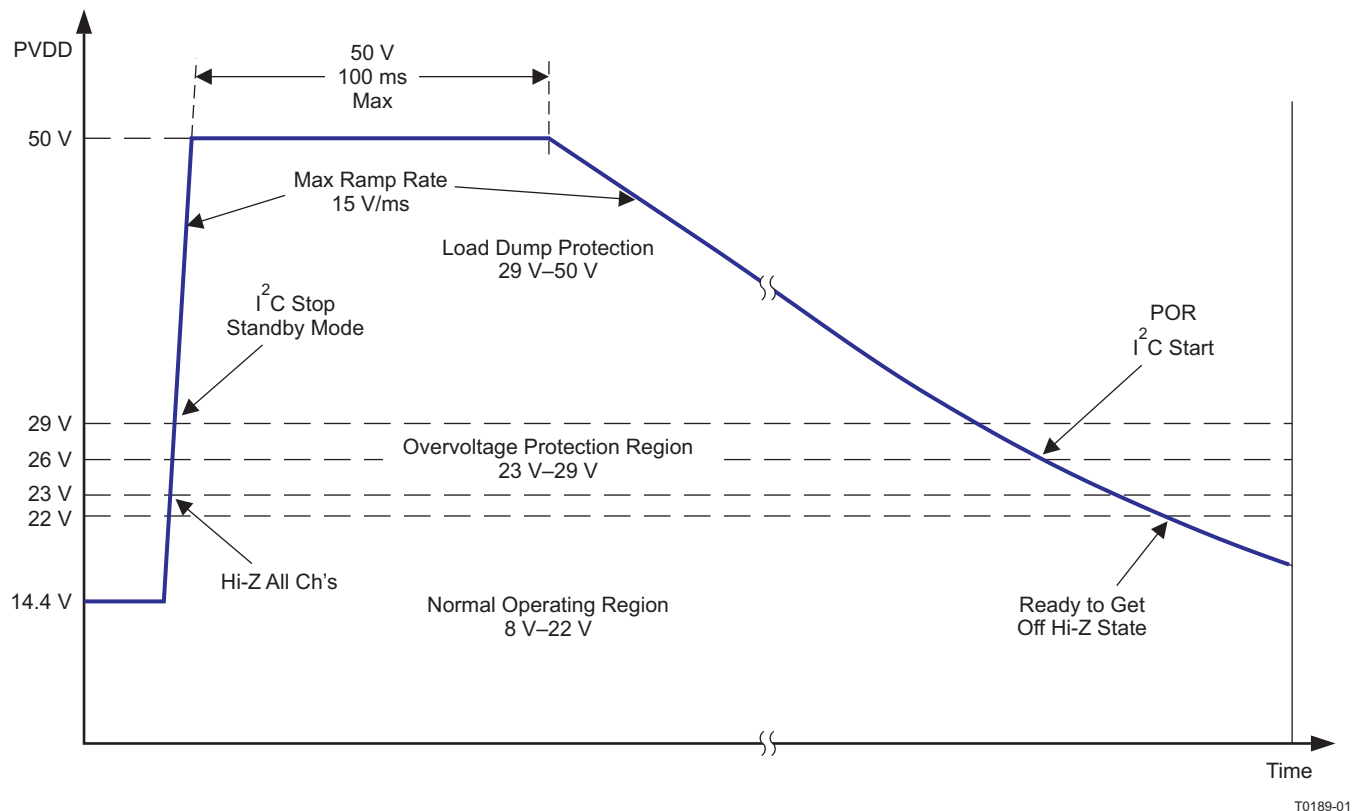

Figure 15. Voltage Operating Regions With Load Dump Transition Defined
6. **Undervoltage (UV) and Power-on-Reset (POR)**—The undervoltage (UV) protection detects low voltages on PVDD, AVDD, and CP. In the event of an undervoltage, the FAULT pin is asserted and the I²C register is updated, depending on which voltage caused the event. Power-on-reset (POR) occurs when PVDD drops low enough. A POR event causes the I²C to go into a high-impedance state. After the device recovers from the POR event, the device must be re-initialized via I²C.
7. **Overvoltage (OV) and Load Dump**—The OV protection detects high voltages on PVDD. If PVDD reaches the overvoltage threshold, the FAULT pin is asserted and the I²C register is updated. If the voltage increases beyond the load dump threshold of 29 Vdc, the device shuts down and must be restarted once the voltage returns to a safe value. After the device recovers from the X load dump event, the device must be re-initialized via I²C. The TAS5414A and TAS5424A can withstand 50-V load-dump voltage spikes (see Figure 15). Also depicted in this graph are the voltage thresholds for normal operation region, overvoltage operation region, and load-dump protection region. Figure 13 shows the regions of operating voltage and the profile of the load dump event. Battery charger voltages from 25 V to 35 V can be withstood for up to 1 hour.